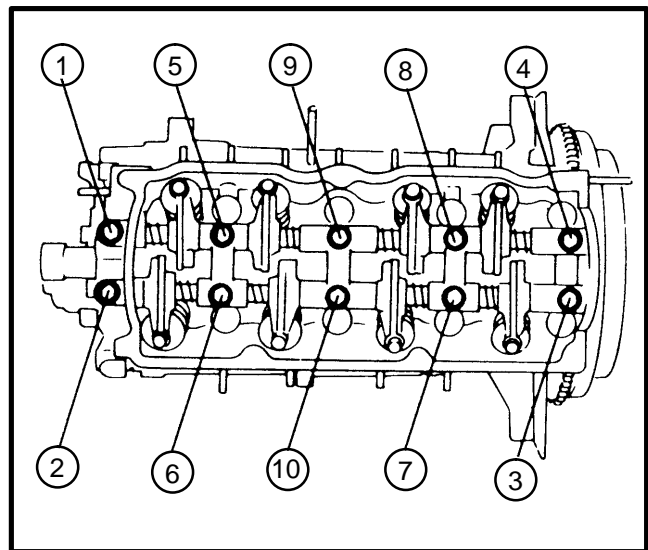

FIGURE 3. SEQUENCE FOR REMOVAL OF THE ROCKER ASSEMBLY
13. Loosen the capscrews for the rocker shaft supports in steps. See FIGURE 3. Remove the rocker shaft assembly and the camshaft.